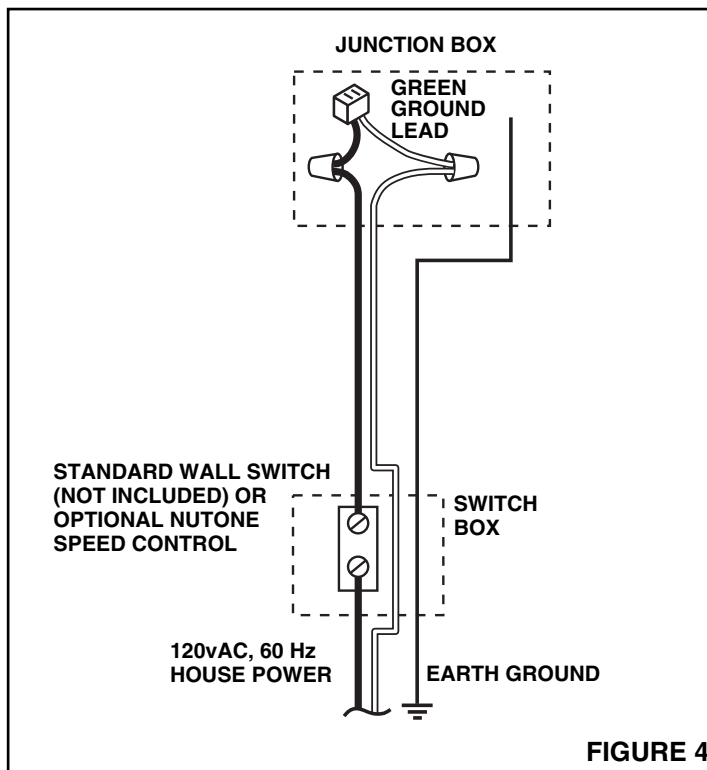

FIGURE 4
3. Refer to Figure 4. Use approved wire nuts to connect house supply wires to fixture wires as follows: white to white; black to black. Connect green or bare ground wire to green ground lead.